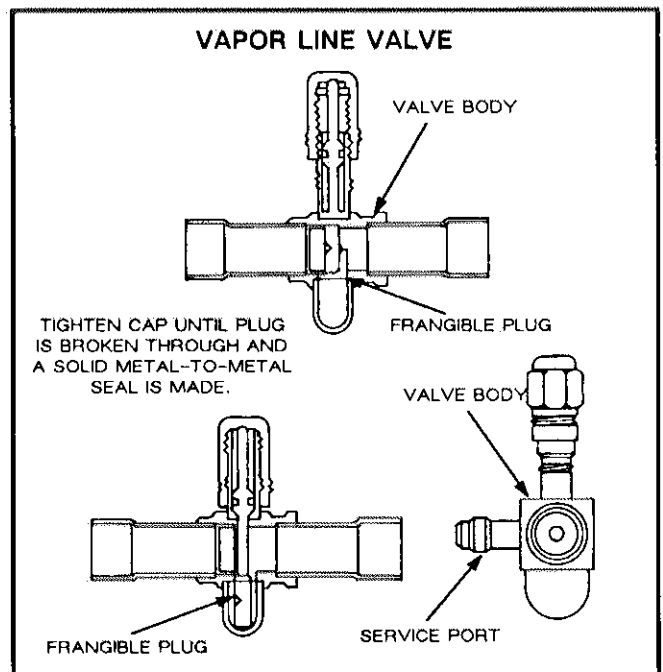

FIGURE 7
- 4- To open vapor line valve, tighten the opening cap (longest) until it hits bottom (nut will be within 1/8 inch [3 mm] or less of the body). Tighten an additional 1/4 turn to make the metal to metal seal (See figure 7).